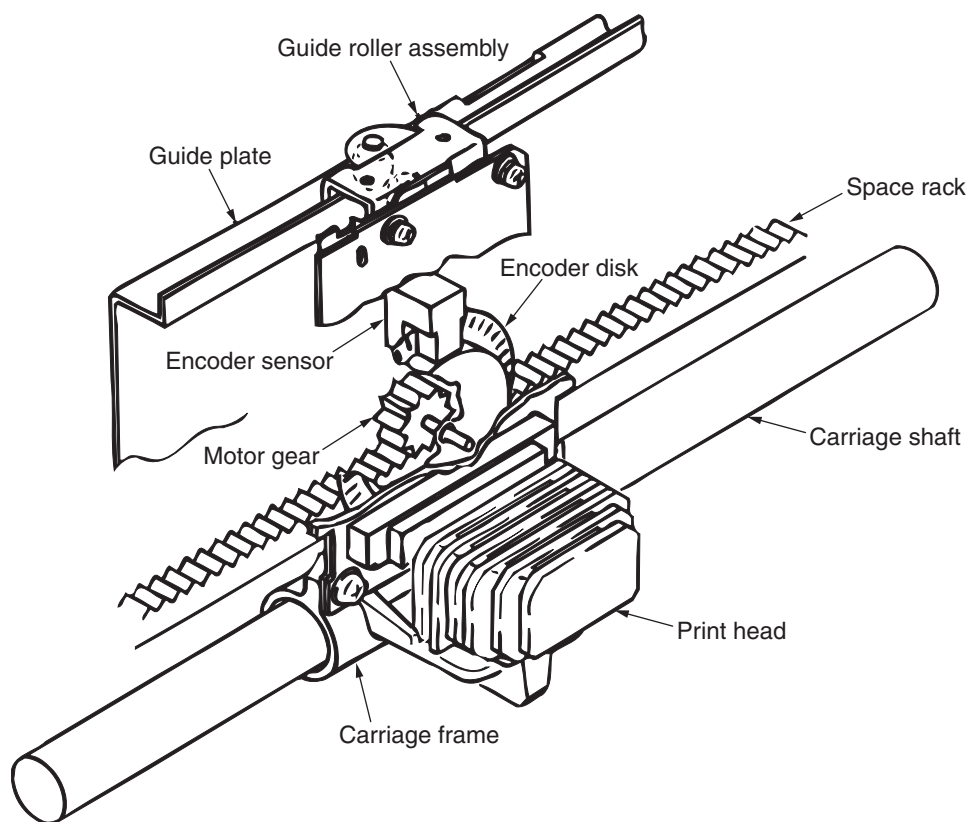

Figure 2-4
2.2.2 Spacing (See Figure 2-4.)